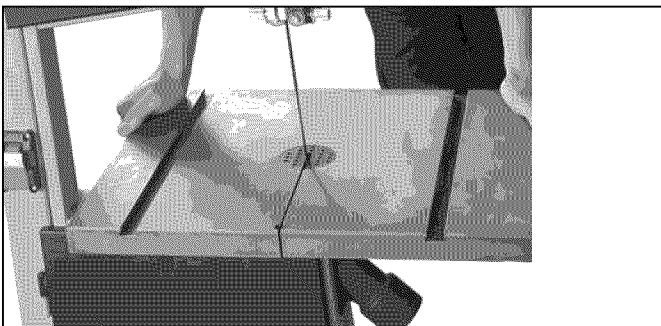

Figure 3 - Assemble Table Trunnion
- Assemble the upper table trunnion to the lower table trunnion with carriage bolt, glide piece, washer and wing nut. Place the table on to the upper table trunnion, taking care when passing the saw blade through the slot of the table (see Figure 3).